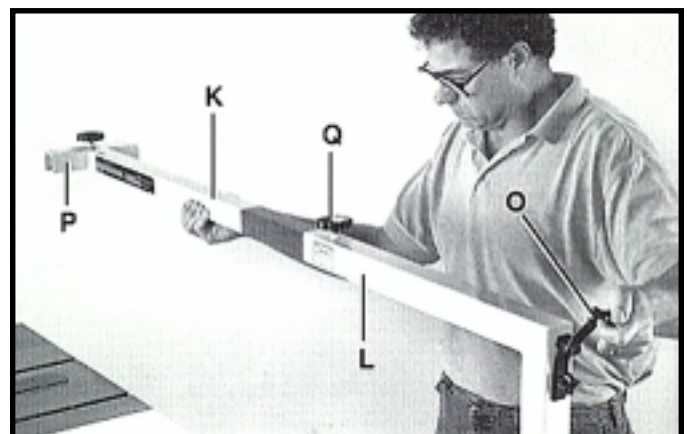

Fig. 10
7. Turn adjusting crank handle (O) Fig. 10, clockwise to draw adjusting arm (K) into mounting bracket (L). Turn crank handle (O) until end of arm (P) is approximately centered over the saw blade and lightly tighten lockknob (Q).